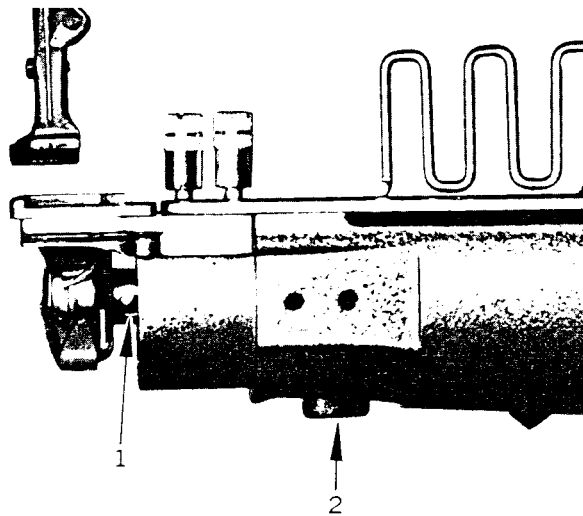
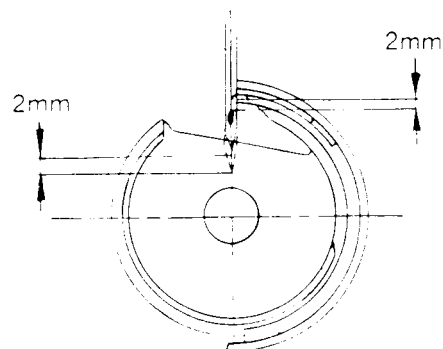

Fig. 19
Fig. 20
2. Adjust the feed motion to the maximum and loosen the screw (2, Fig. 19) with a hexagon wrench (standard accessories).
4. Securely tighten the screw (2, Fig. 19)
- TIMING AND THE CLEARANCE ADJUSTMENT (Fig. 19)
1. Loosen the two screws (1).
2. Adjust the timing to conform to that shown in Fig. 20.